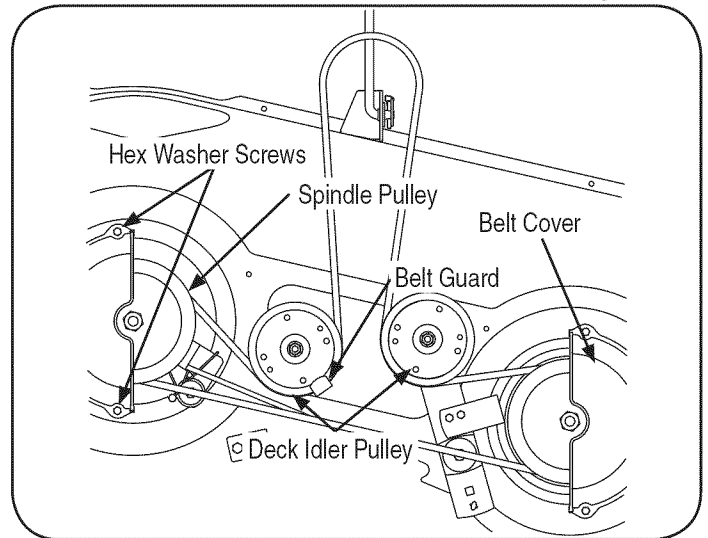

Figure 14
2. Remove the belt covers from the outer spindles by removing the hex washer screws that fasten them to the deck. See Figure 14.
4. Carefully remove the deck belt from around the two spindle pulleys and the two deck idler pulleys. See Figure 14.